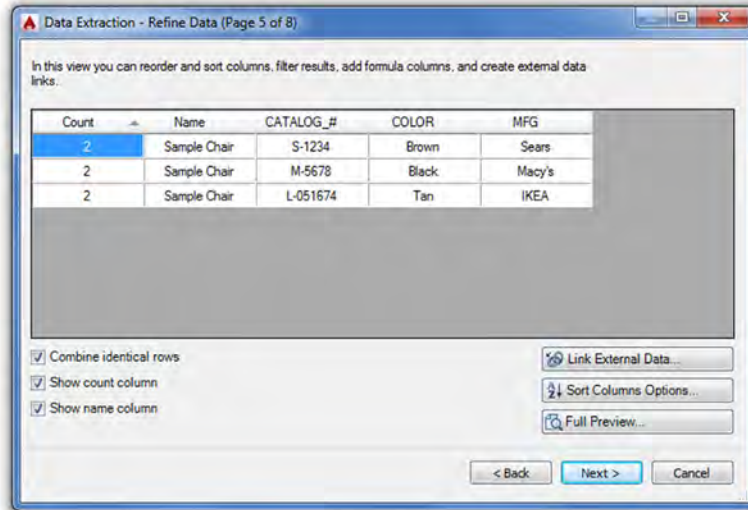

FIGURE 18.15
- Step (Page) 5.** Refine Data (Figure 18.15). This step is for you to refine the data, if needed. It contains some interesting features, such as Link External Data... (to tie in this output to another Excel file) as well as some tools for adjusting and tweaking the columns. Much of this and more can be done in Excel itself after extraction is completed, but it can be useful to adjust the look and content of the table extractions, as tables are less flexible. If you want to change nothing, press Next > for the final few steps.